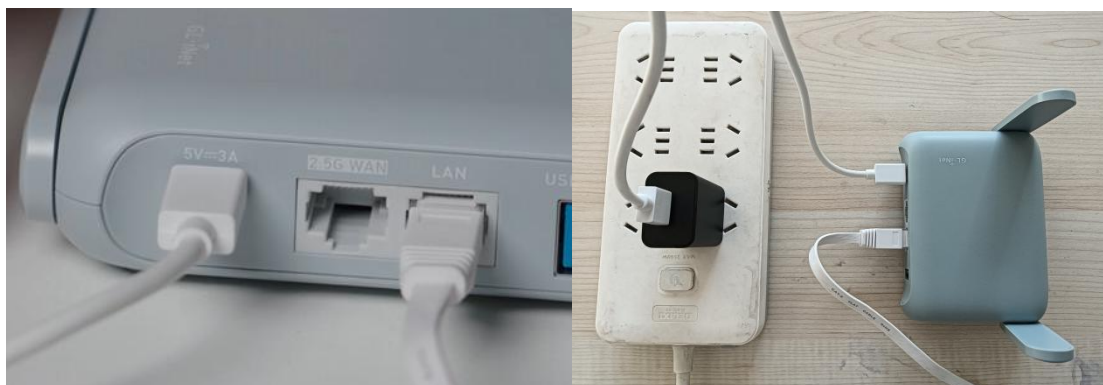

Figure 3-5 Router's Data Cable Connection
2. Connect the router to an external power source using the data cable, as shown in Figure 3-5.